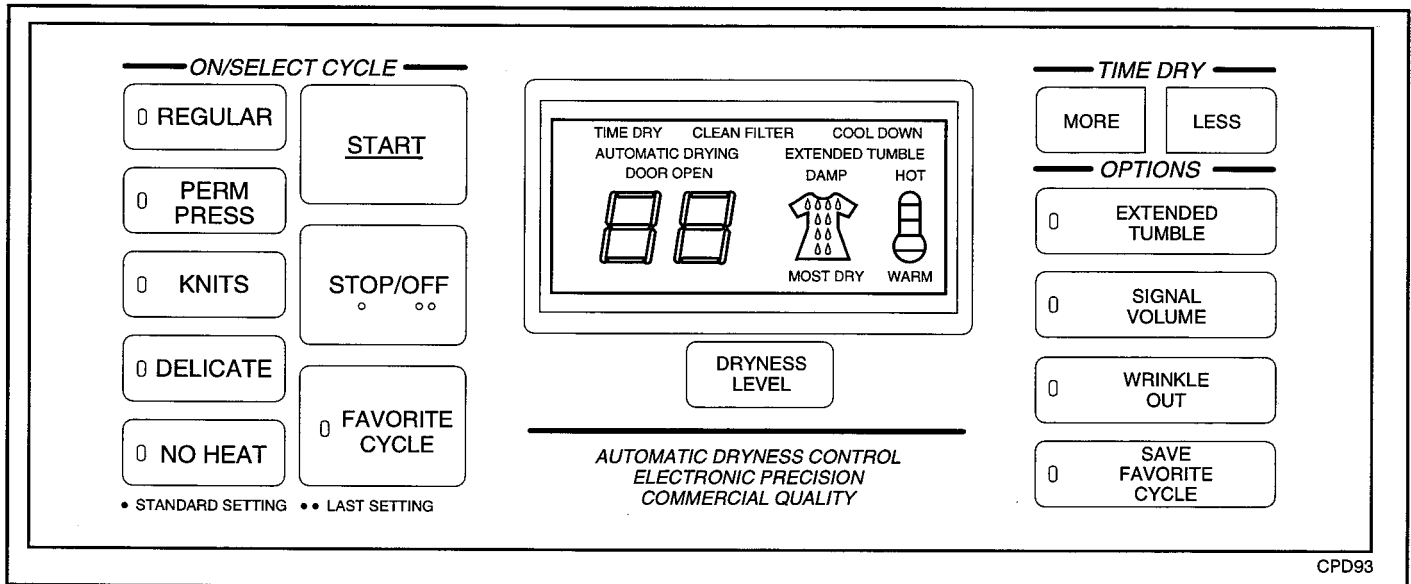

Figure 9-9
13. CONTROL REPLACEMENT (Figure 9-9)